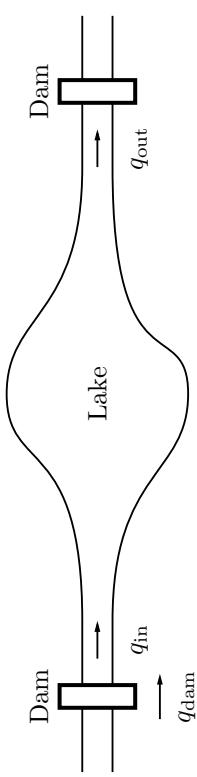

Figure 3.14a
3.14 We want to control the level in a lake by controlling the flow using flood gates, see Figure 3.14a. The relationship between changes in the level of the lake, h_Δ , and changes in the flows, $q_{in,\Delta}$ and $q_{out,\Delta}$, is given by